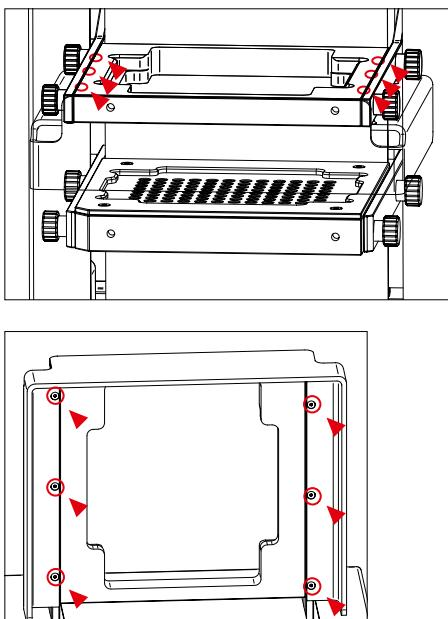

Figure 4: MultiMACS Protective Screen with Column Holder on top. Arrows point to screws which have to be removed to take off Protective Screen.
1. Remove the Protective Screen if it interferes with gripper tool movements: Unscrew all six screws on the bottom of the MultiMACS Column Holder and store them together with the Protective Screen in a clean and dry location (refer to fig. 4 below).